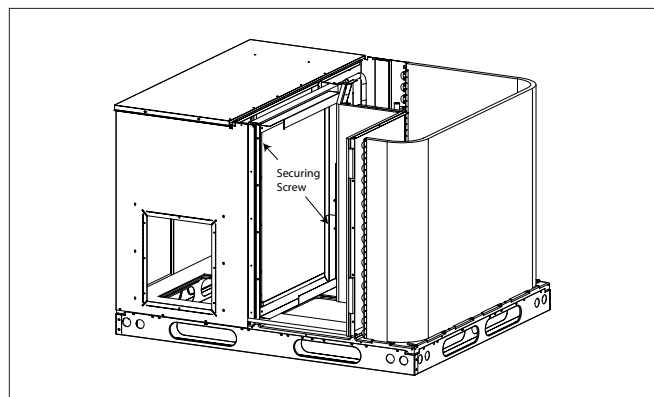

Figure 3a. Internal Filter Rack Location
Removal of Internal Filter Rack — First remove the Return Air Panel from the unit. Remove the height adjustment screw from the inside of the rack, and the (1) screw securing the assembly to the coil located on the left leg of the rack. The assembly can easily be collapsed and removed from the unit. See **Figure 3a** for filter rack securing screw locations.